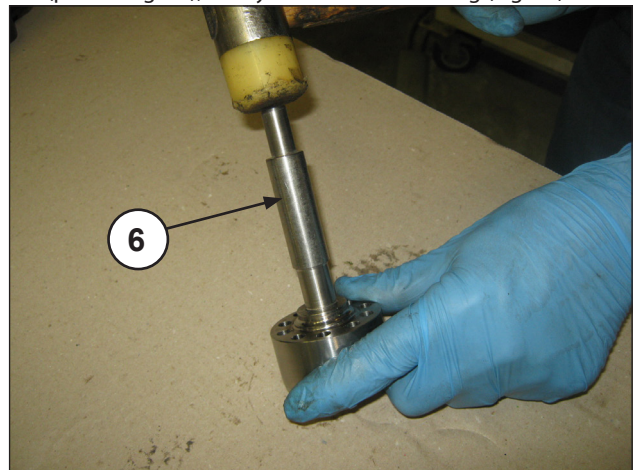
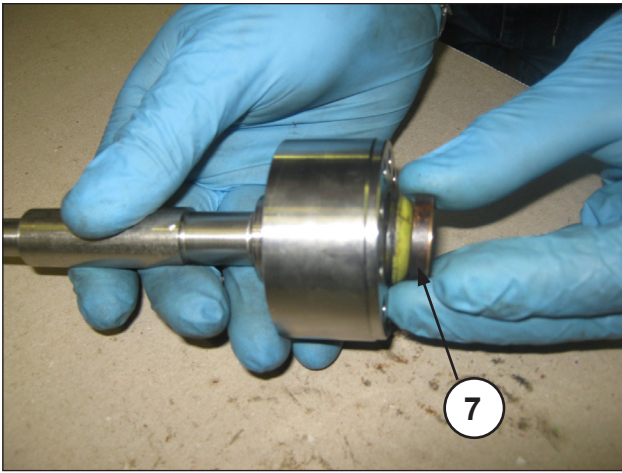

Fig. 36
Fig. 37
- With separate HP seals support and a special pin (pos. ⑥ Fig. 36) make the H.P. pack come out. pack (high pressure) (pos. ⑦ Fig. 37), finally extract the head ring (Fig. 38).